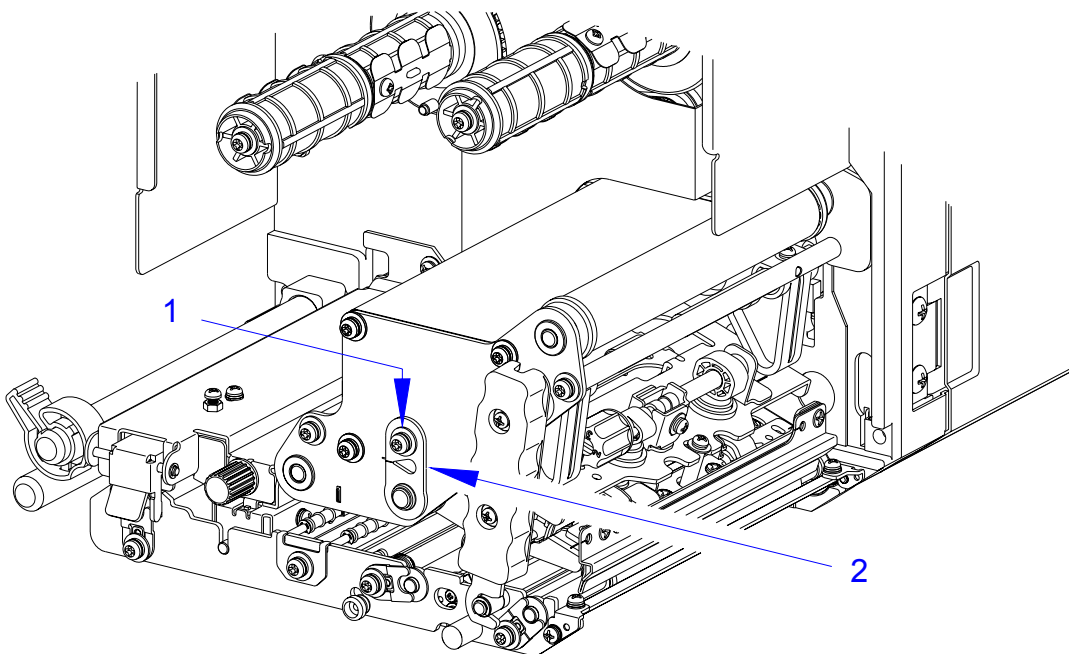

Figure 6-11, Print Head Balance Adjustment
To adjust the balance, begin test printing, slightly loosen set screw (1, Figure 6-11), and slightly move the adjustment plate (2) upward or downward as necessary. Retighten set screw (1) while holding the adjustment plate (2) when proper printing is achieved.